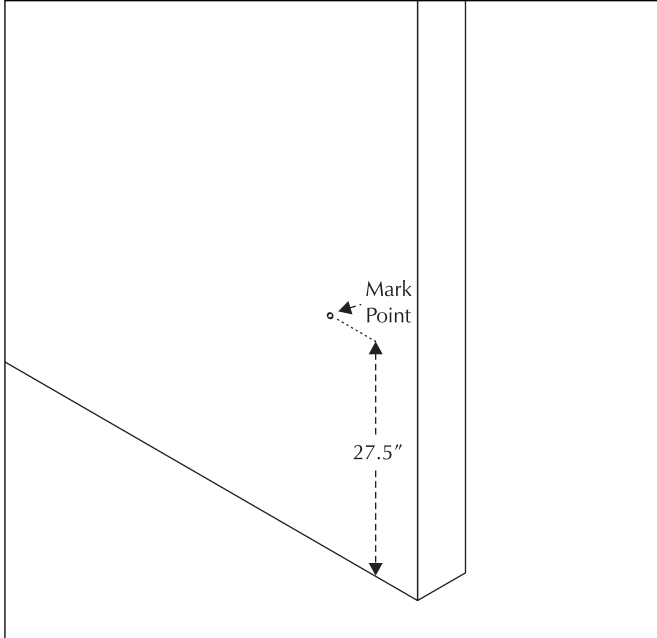

Figure 4. Step 3
- 3 At the desired installation location, mark a point on your wall 27.5 inches above the floor (see figure 4).